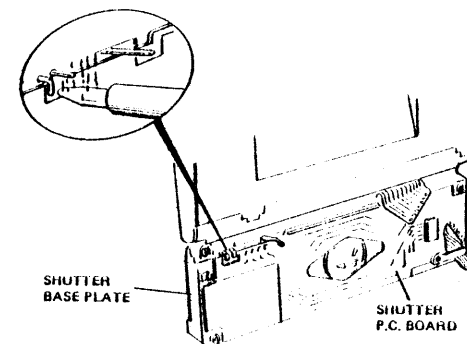

FIGURE 4-36
2. Bend the leads down about 90 degrees and solder to back of shutter P.C. board (see Figure 4-36).